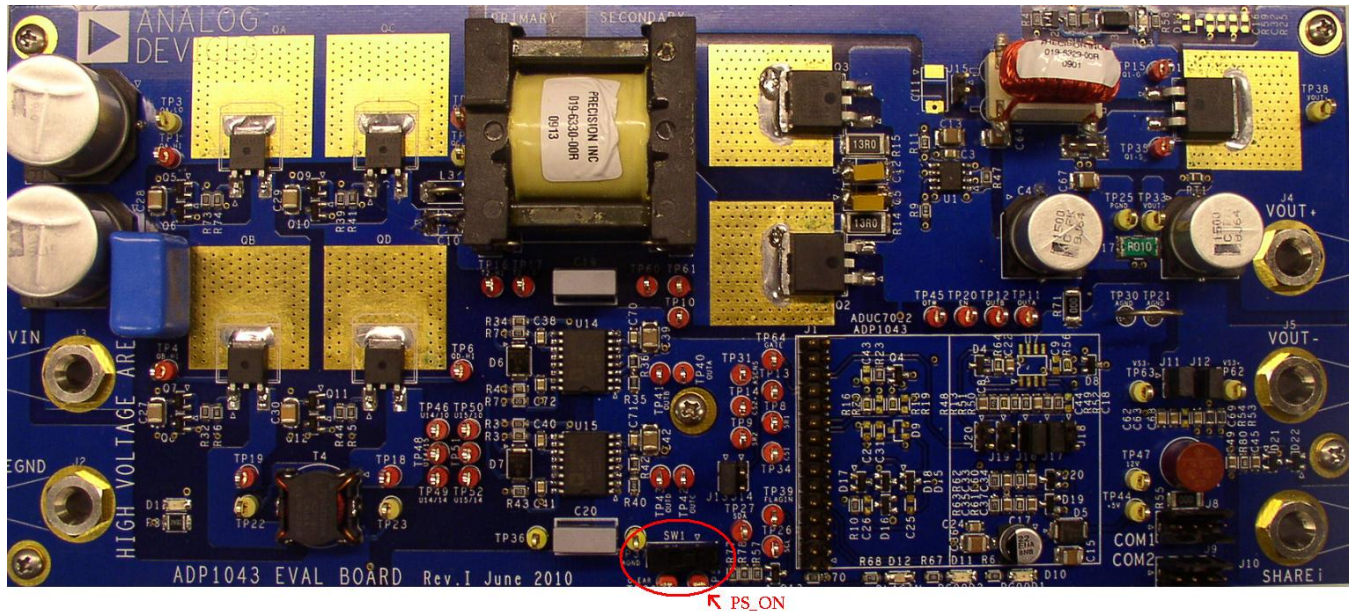

Figure 5 - 100W evaluation board showing PS_ON hardware switch
- 2) Insert the daughter card in connector J1 as shown in Figure 5.
- 3) Ensure that the PS_ON switch (SW1 on schematic) is turned to the OFF position. It is located on the bottom left half of the board (Figure 5).